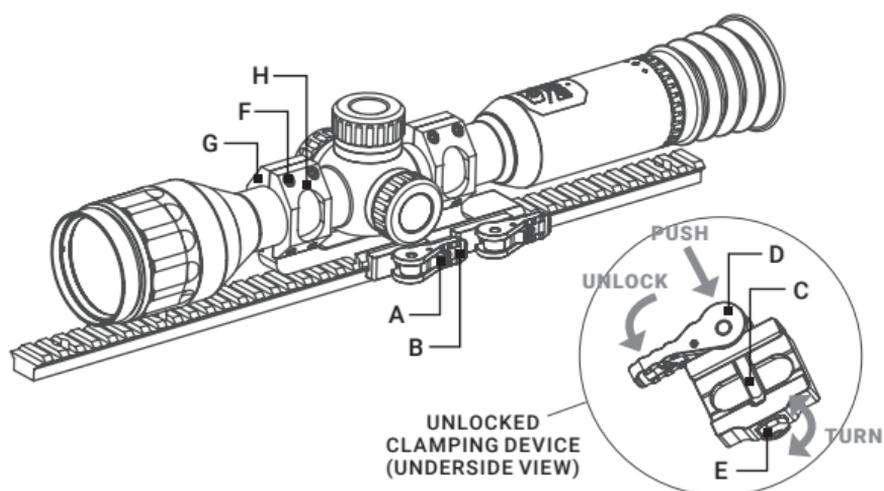

FIGURE 2-6. INSTALLATION WITH QUICK RELEASE MOUNT
You can mount the Adder scope on a Picatinny/Weaver rail of weapon using quick release (QR) mount (Figure 2-6).
1. Unlock the clamping devices of the QR mount by pushing down on the lever holders (A) and unlocking the levers (B).